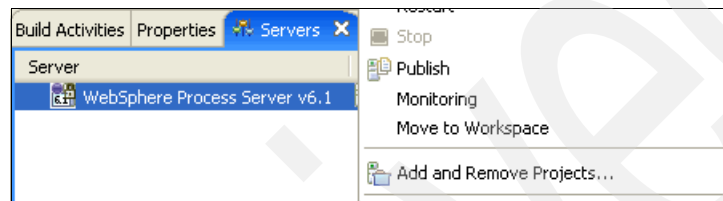

Figure 5-69 Selecting the Add and Remove Projects options
2. In the Servers view, right-click **WebSphere Process Server v6.1** and select **Add and Remove Projects** (Figure 5-69).